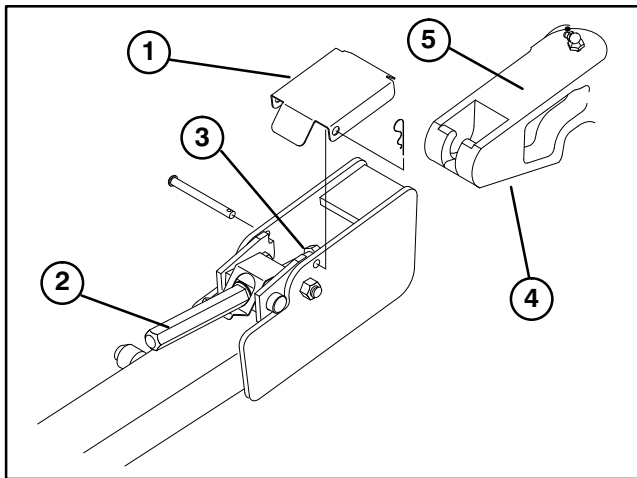

Figure 8
3. Adjust lift arms heights making sure that the machined surface on top of each traction unit lift arm is parallel to ground (Fig. 8). (Raise or lower lift arm casting by pushing up or down from behind the front tires or using wrench in front of traction unit)